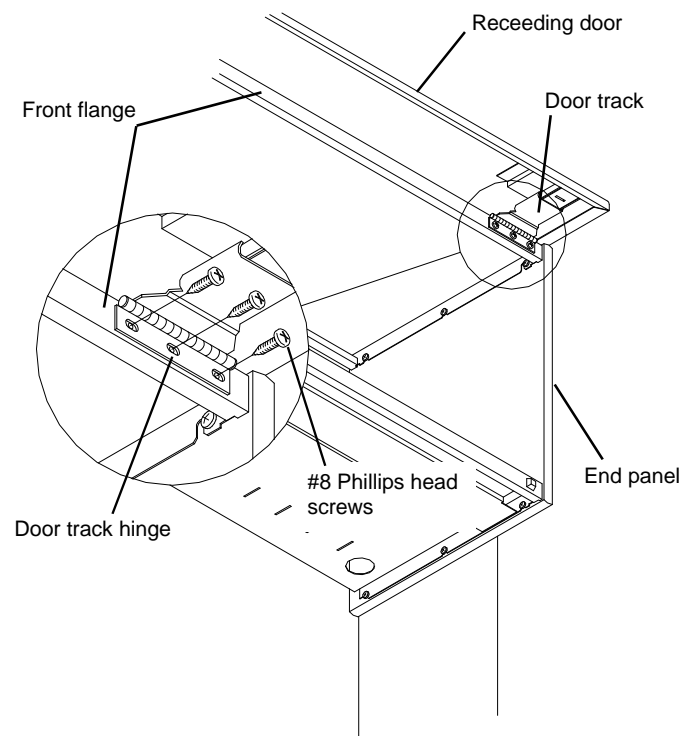

Figure 6
1. Place one Receding Door assembly face up on top of the Locking Compartment. See **Figure 6**. Position the two **Door Track** hinges against the front flange of the Top Panel. The Door edges must be aligned with the outer surfaces of the End Panels. Align the slots in the Door Track Hinges with the six holes in the front flange of the Top Panel. Install and tighten six #8 Phillips head sheet metal screws into the Door Track Hinges to secure them. See note below on 72"/66" doors.